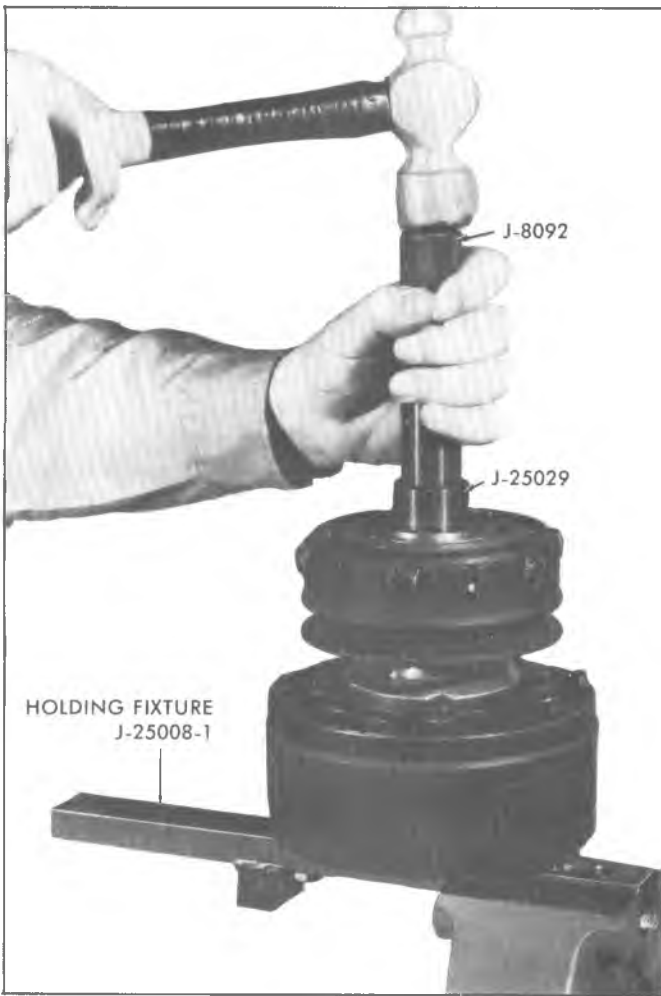

Fig. 17—Installing Rotor and Bearing Assembly
4. Reassemble rotor and bearing assembly to front head of compressor using rotor bearing remover and rotor assembly installer J-25029. With tool J-25029 assembled to the handle as shown in Figure 17, the tool will apply force to the inner race of the bearing when installing the clutch and pulley assembly on the front head of the compressor.
- Assemble and fully seat pulley rim to clutch rotor and bearing assembly as shown in Figure 17, using loctite RC-75 or equivalent on screw threads and
- Tighten pulley rim mounting screws to a 50-70 inch pounds torque and lock screw heads in place as shown in Figure 17.
5. Install clutch rotor and bearing assembly, clutch coil and pulley rim assembly to front head (Fig. 17). Before fully seating the assembly on front head be sure clutch coil terminals are in the proper location
2. Place assembly on neck of front head and seat into place using rotor bearing remover and rotor assembly installer J-25029 as shown in Figure 17. Before fully seating the assembly on front head, be sure the clutch coil terminals are in the proper location in relation to compressor and that the three protrusions on the rear of the clutch coil align with the locator holes in front head.